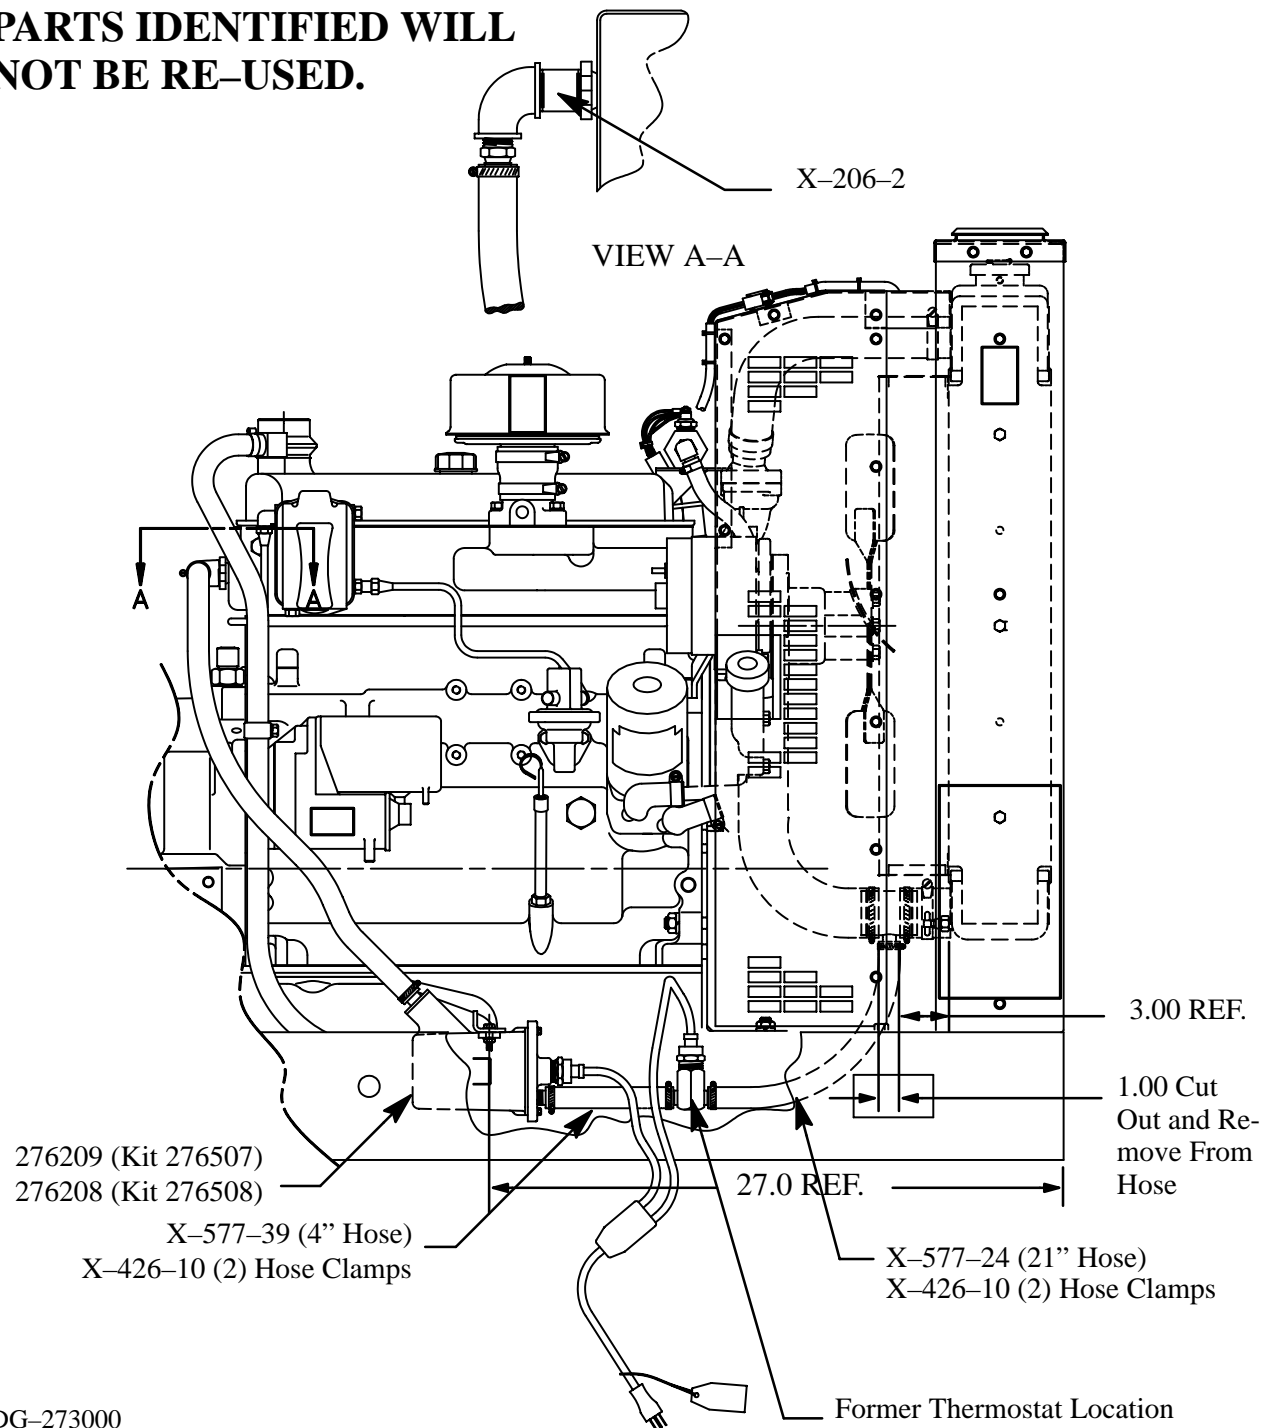

Figure 3. Block Heater Kit Removal (Earlier Version Tank-Type)
5. Remove and discard 4" hose (X-577-39) and two hose clamps (X-426-10). See Figure 3.
6. Remove and discard 21" hose (X-577-24) and two hose clamps (X-426-10). See Figure 3.